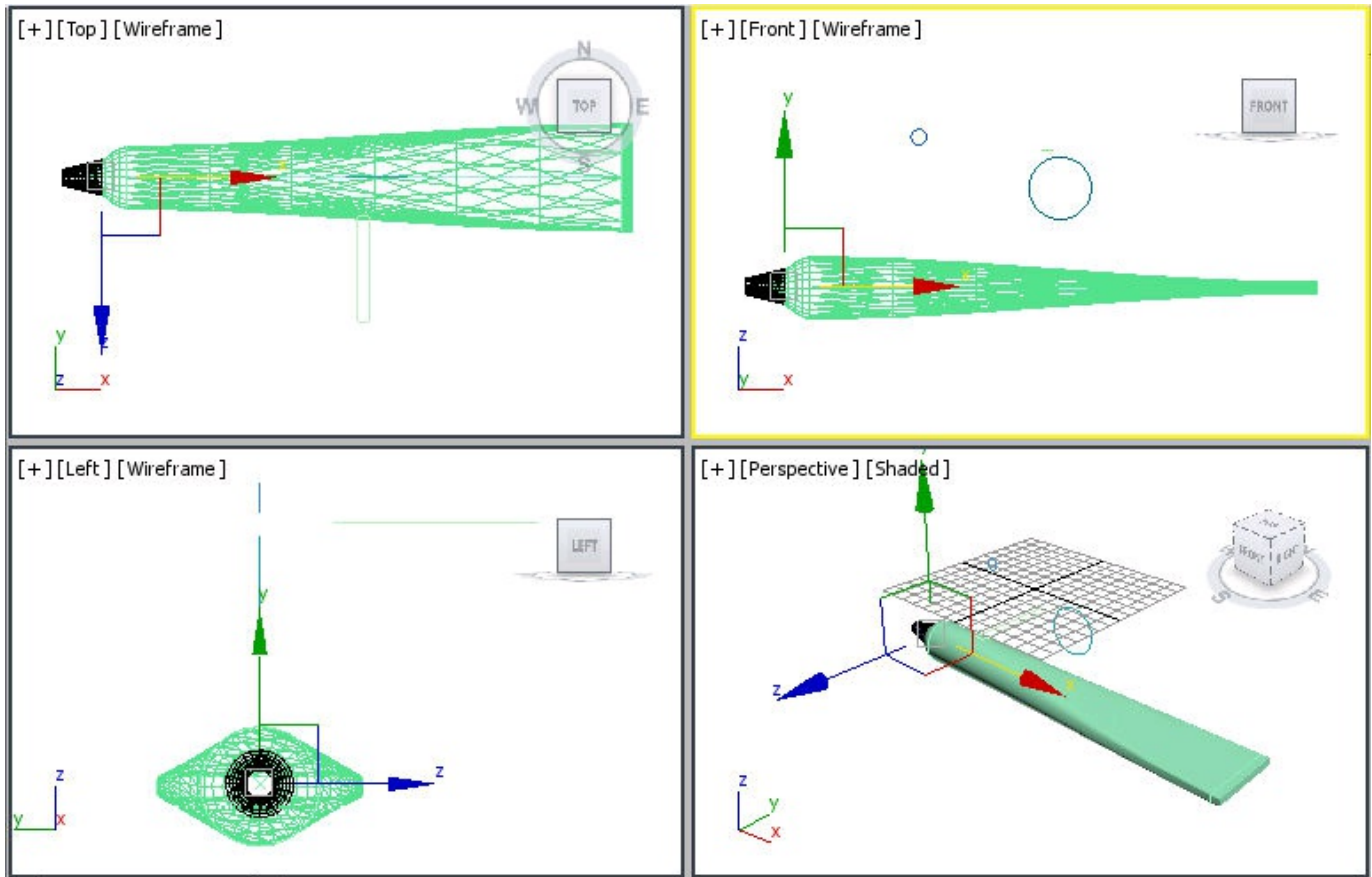

Figure 11-73 The *cap01* geometry in the viewports after being aligned with *toothpaste tube*
23. Make sure *cap01* is selected and then choose the **Use Pivot Point Center** tool from the **Main Toolbar**. Now, align *cap01* with *toothpaste tube* using the **Select and Move** tool in viewports, as shown in Figure 11-73.